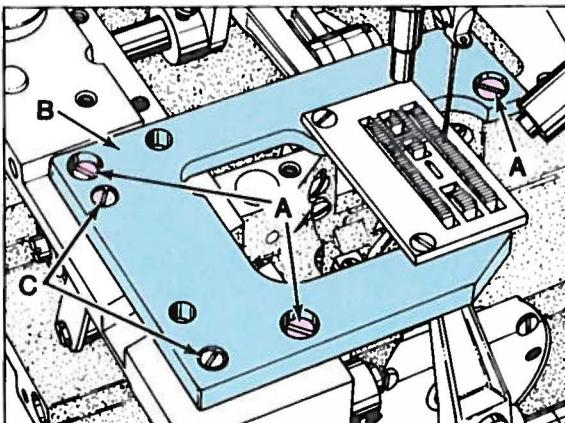

Fig. 10
Feed dog should be centered in throat plate with equal clearance on all sides and ends. At highest point of travel, feed dog teeth should extend the depth of a tooth or approximately  $3/64$  inch (1.2mm) above throat plate and parallel to same. Minor right to left adjustments can be made by loosening three screws (A, Fig. 10) in throat plate support (B). There are two adjustable ferrules used to align throat plate support. Loosen two screws (C) which secure the ferrules and reposition throat plate support slightly as required, considering both needle hole and feed dog slots. Tighten two screws (C) first, then tighten three screws (A).